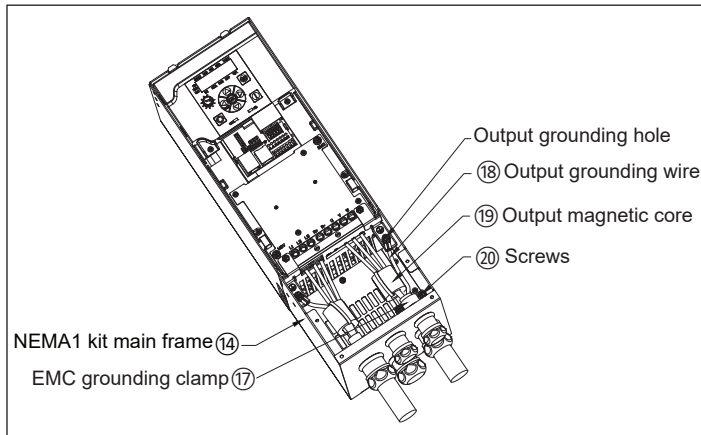

Figure 20. Routing the output cable and motor wires.
B. Run the output cable (3 motor wires + 1 output grounding wire) through the power wires conduit fitting (13) and EMC grounding clamp (17). Run the 3 motor wires without the output grounding wire through the output magnetic core (19) (if provided). Connect the output grounding wire (18) to the output grounding hole on NEMA 1 main frame (14), then connect the motor wires to U/V/W terminals. Tie output magnetic core (if provided) to the output wires with a cable tie. Use the EMC grounding clamp (17) and two screws (20) to fix the output cable shielding layer (see Figure 20).